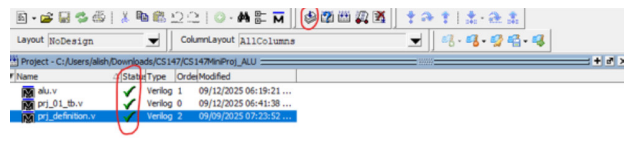

Fig. II.5. Compilation of Files Check
- Once the three files are added to the project click 'Compile' (in red) after selecting each file one at a time. If successful, green check marks for each file will appear as in Figure II.5.